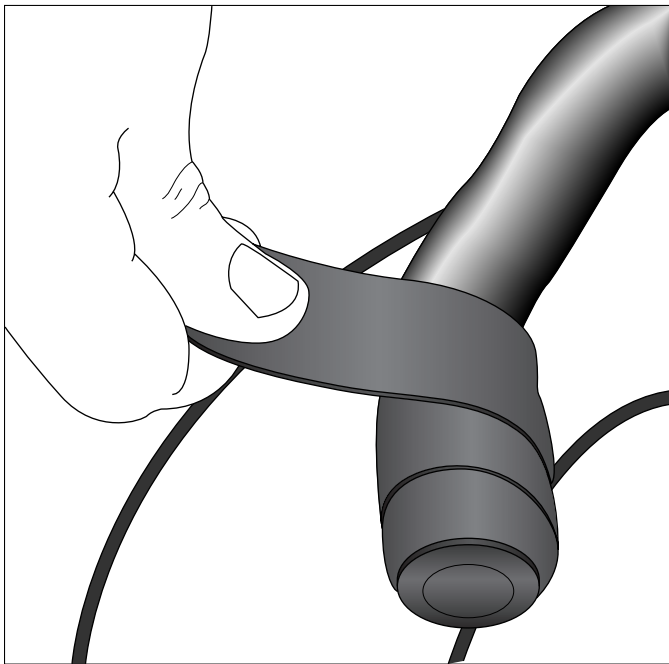

Figure 15-2:
1. **Begin by wrapping the tape from the end of the handlebar, overlapping at least a quarter of the tape with each wrap (see Figure 15-2).**